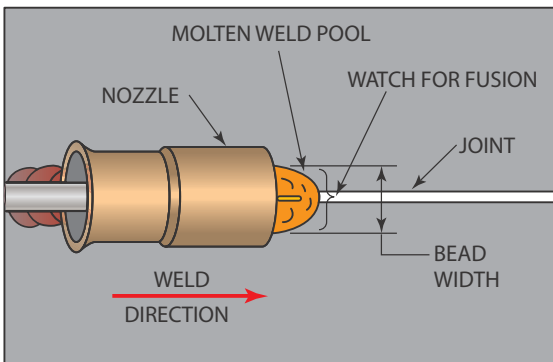

FIGURE 13-22 The shielding gas nozzle restricts the welder's view. © Cengage Learning 2012
- Joint visibility—You can easily see the joint where the bead will be deposited, Figure 13-22.